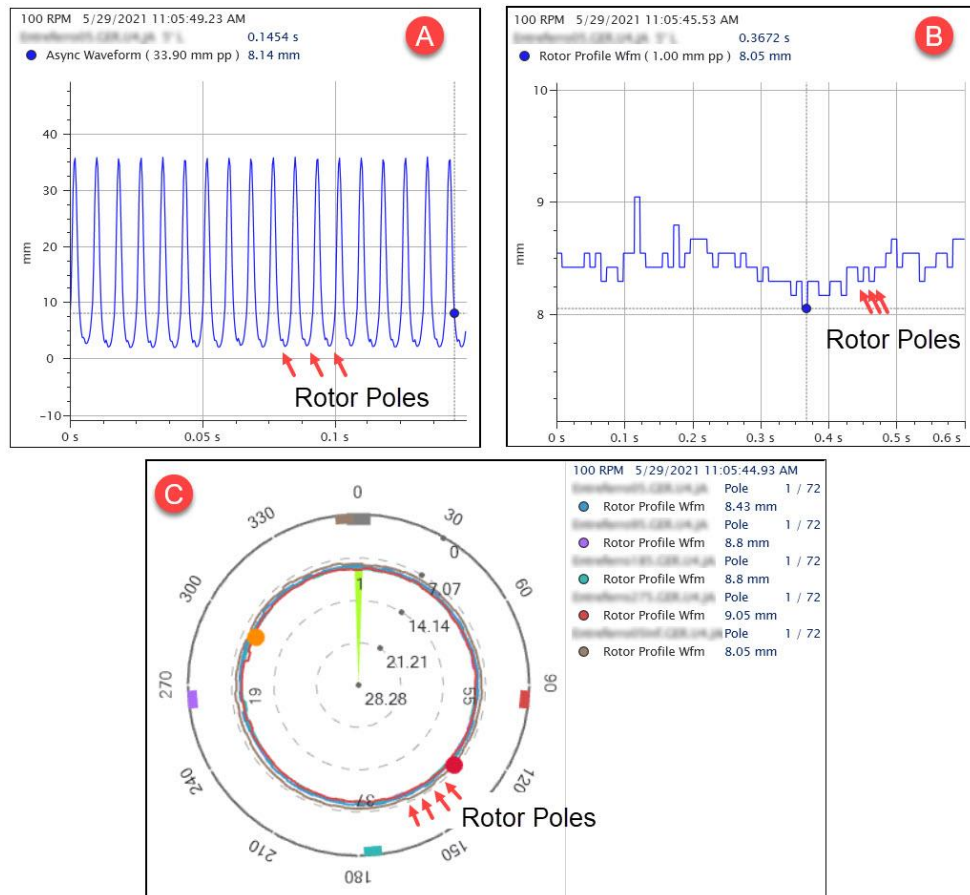

Figure 7-7) SETPOINT CMS Air Gap Plots
The VC-8000 Air Gap channel provides a Rotor Profile waveform and an Asynchronous waveform to the SETPOINT CMS software. This data is used for the Asynchronous Timebase plot (A), the Rotor Profile Timebase plot (B), and the Air Gap plot (C) (see **Figure 7-7**).